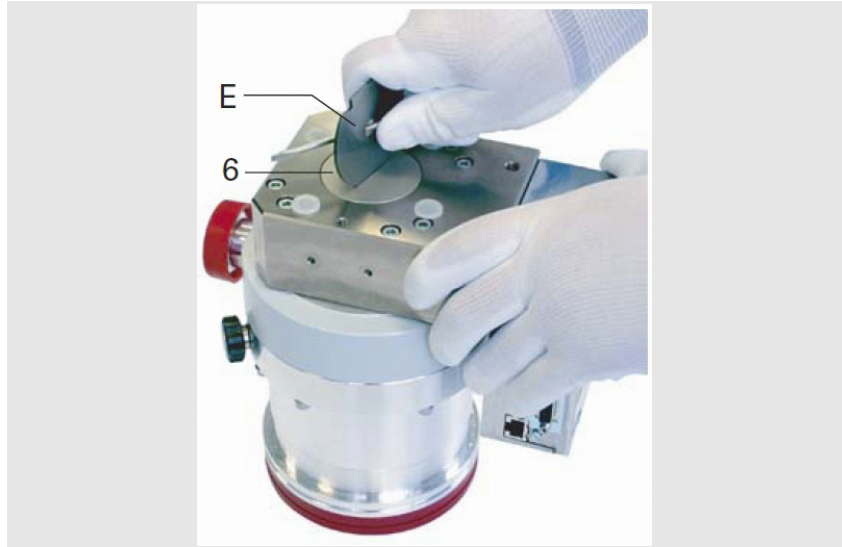

Fig. 74 Removing the locking cap¹
5. Using the supplied locking cap removal tool, shown in Figure 74, unscrew the locking cap by turning the tool and cap counter-clockwise.